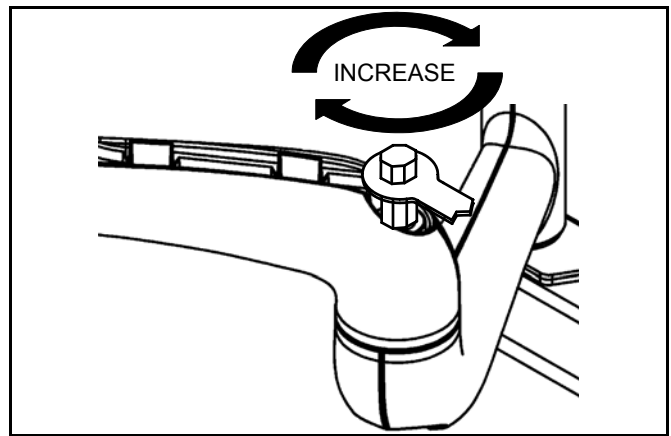

**Figure 12**
1. Locate the adjustment bar (H) and adjustment wrench (J).
2. Place adjustment bar (H) into socket head cap screw located at swing arm pivot point. (See Figure 12)